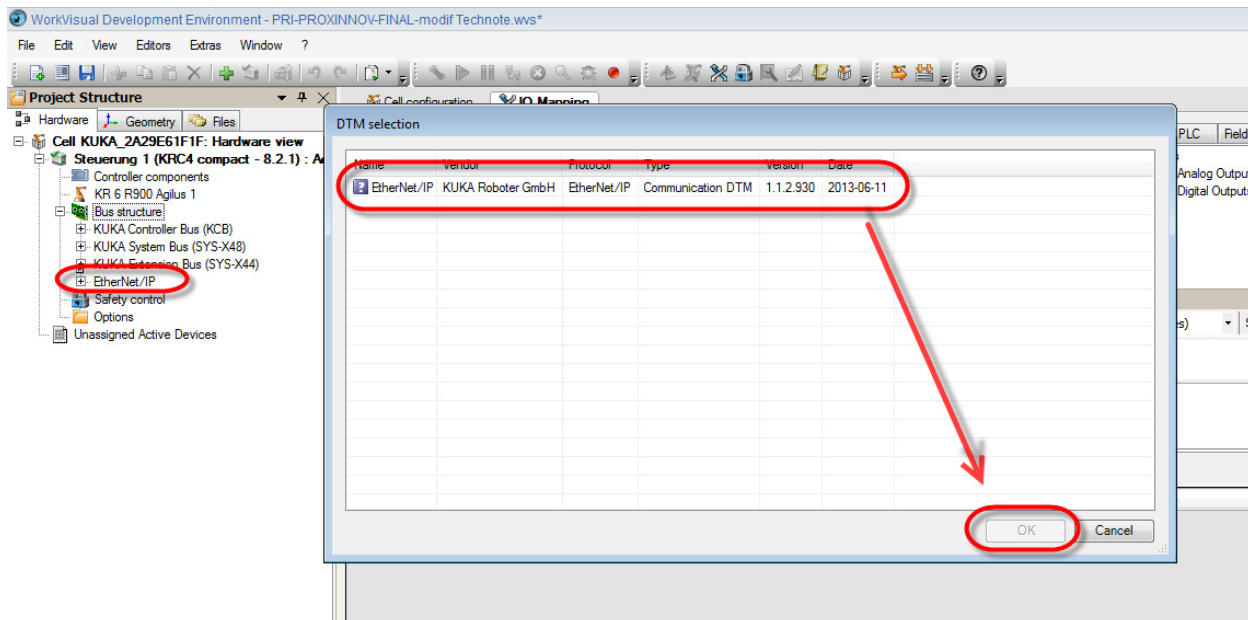

Figure 15.
- Referring to Figure 15, go to the Navigation Pane and select *EtherNet/IP*; the DTM Selection popup appears.